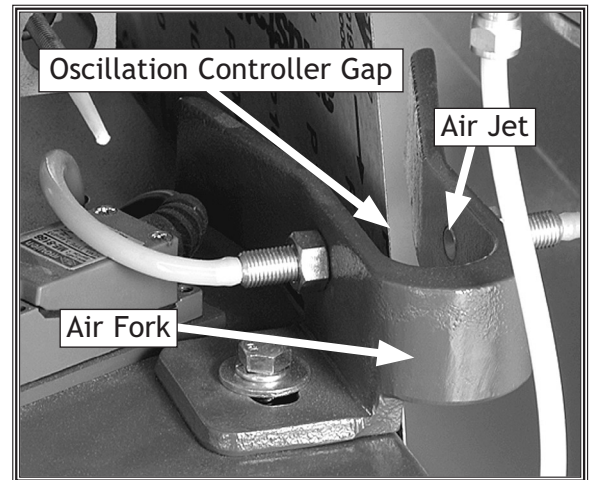

Figure 35. Air jet and air fork assembly.
3. An adequate stream of air through the air fork gap (**Figure 35**) is essential for proper oscillation. If the jet of air is weak through the gap, the belt will track away from the controller and into the limit switch on the opposite end of the roller. The pivot action of the upper roller, and the resulting oscillation of the belt, are dependent upon adequate airflow through the air fork gap.